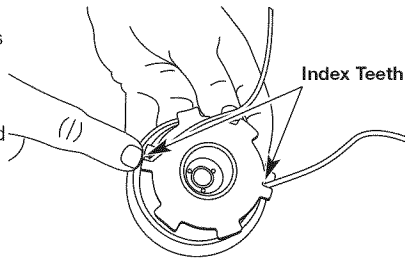

Fig. 20
- Insert the split ends of the line into the two holding slots (Fig. 20).